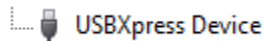

**Figure 12: Updating the Driver Software**
1. Open the Device Manager and select “Update Driver Software” (see Figure 12).